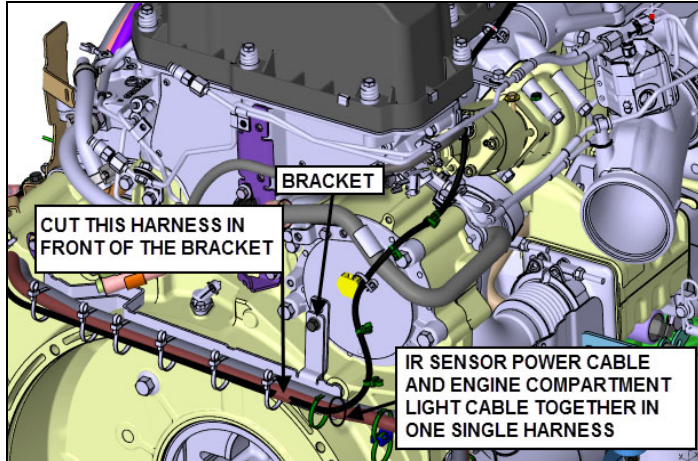

FIGURE 21: CUT THE HARNESS CLOSE TO THE BRACKET
- 1) The engine compartment light power cable and the IR sensor power cable are joined together in one single harness. Locate this harness and cut it close to the bracket shown on FIGURE 21. Discard the section of this harness that runs on the turbo side.